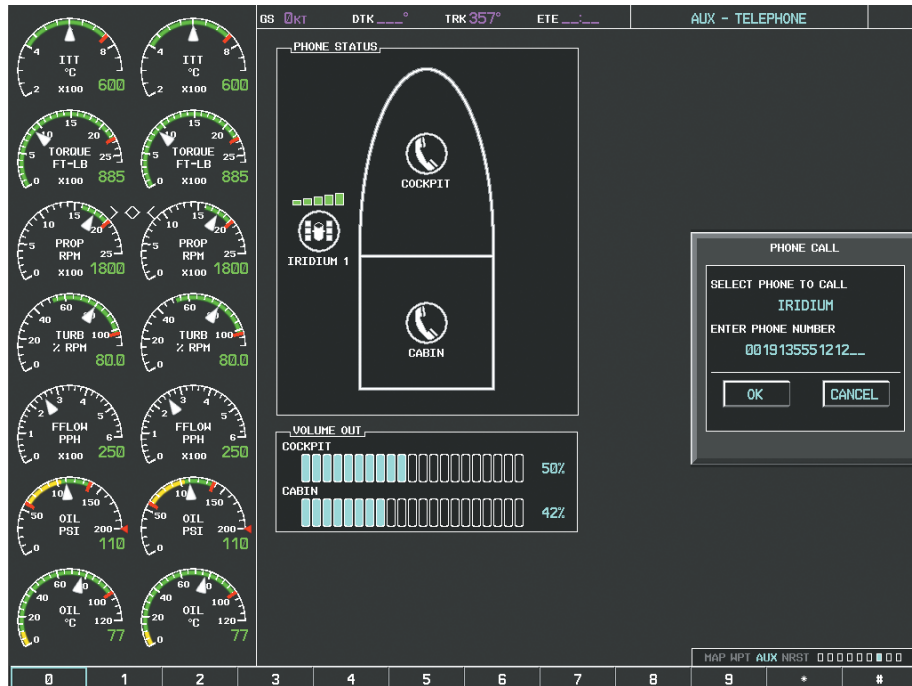

Figure 8-86 Make the Call
- 6) Press the **ENT** Key. 'OK' is highlighted as in Figure 8-86.